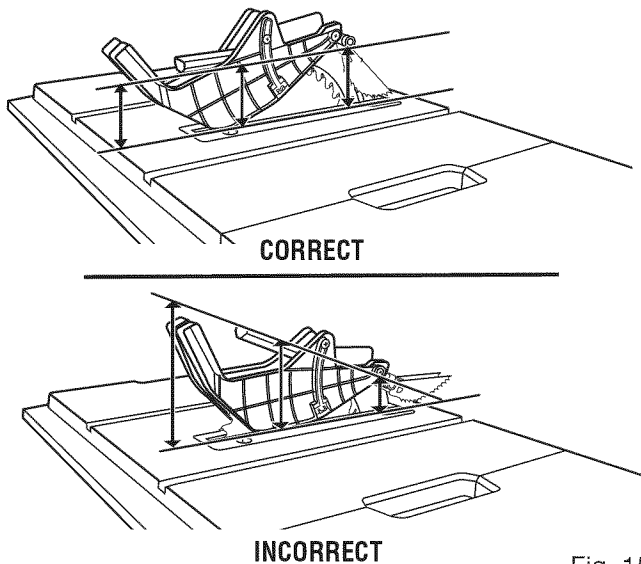

Fig. 15
- With the front of the blade guard raised, lower the back of the guard into the middle hole of the spreader/riving knife. Push the front of the guard down until it is parallel to the table (see figure 15). If the blade guard is not parallel to the table, the riving knife is not in the spreader (or “up”) position.